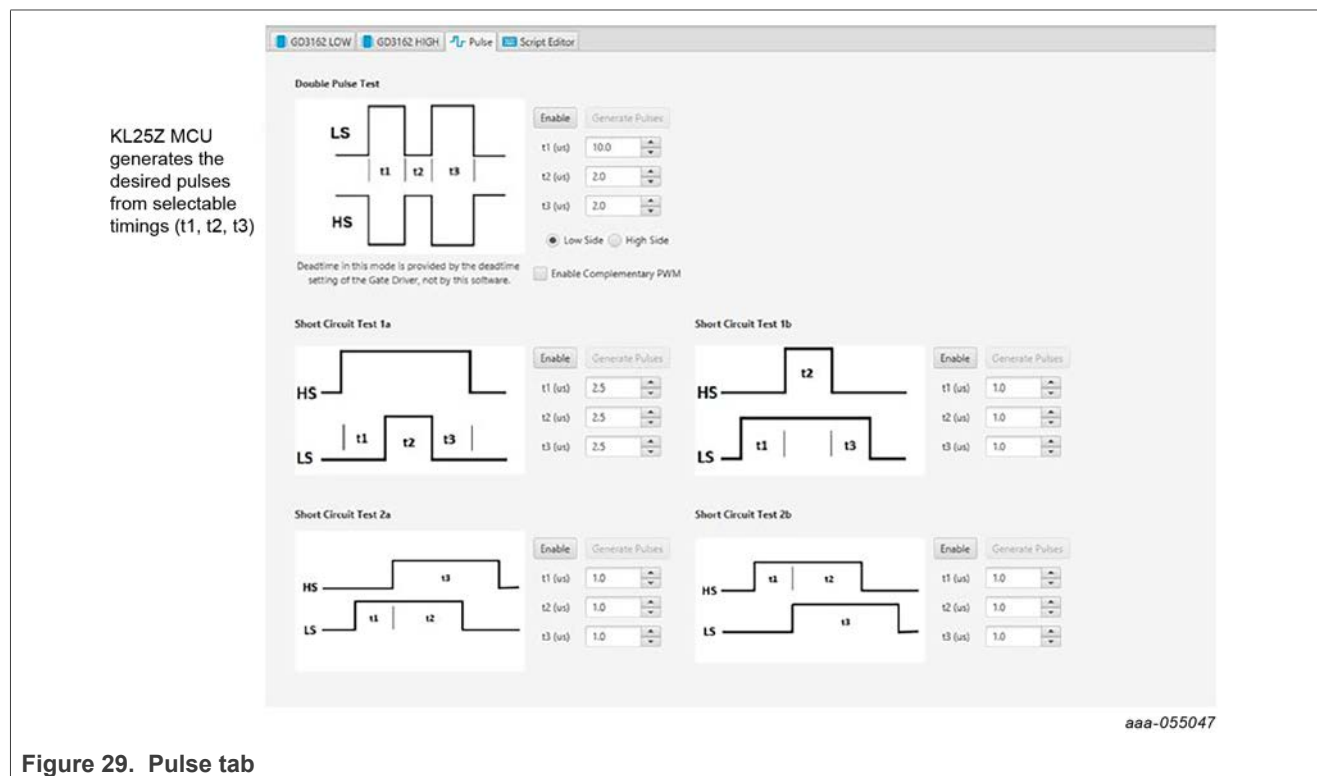

Figure 29. Pulse tab
**Note:** Double pulse and short-circuit testing can be conducted on phase U only. See FlexGUI 2 Pulse tab Figure 29.